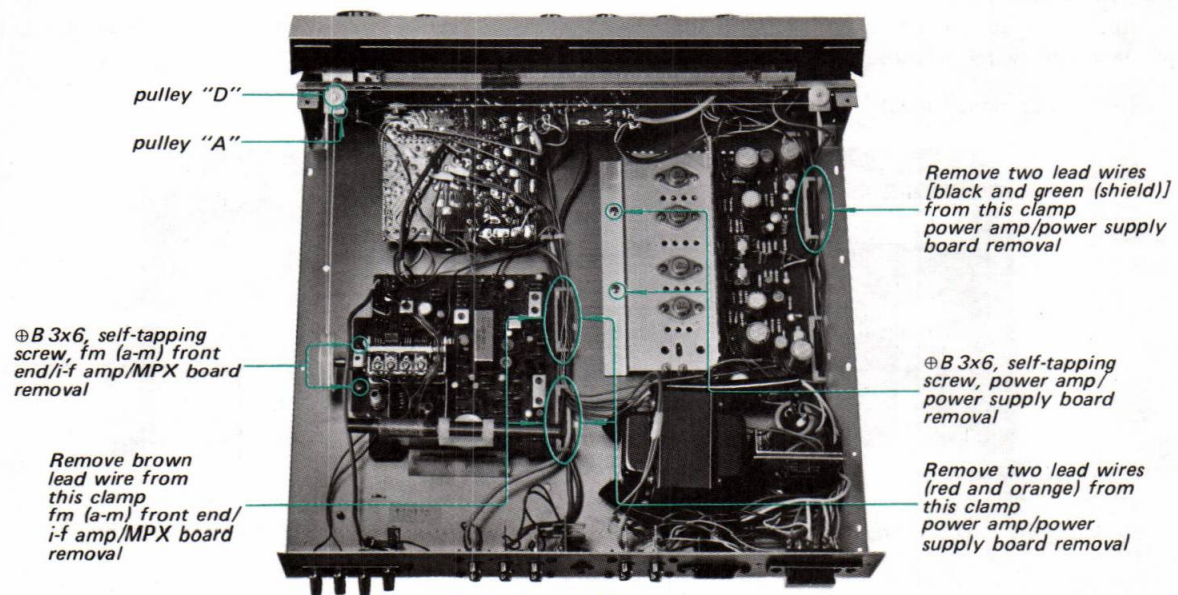

Fig. 2-18. PCB removal
3. Remove the two self-tapping screws ($\oplus B 3 \times 6$) securing the tuning capacitor and PCB brackets to the chassis as shown in Fig. 2-18. This frees the fm (a-m) front end/i-f amp/MPX board.
in Fig. 2-18. This frees the power amp/power supply PCB.